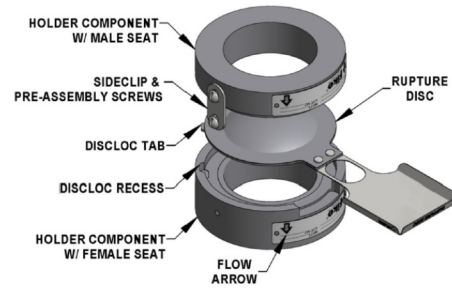

Figure 4 - Insert Holder
- Place holder component with female seat on a work surface (See Figures 4, 5, & 6).